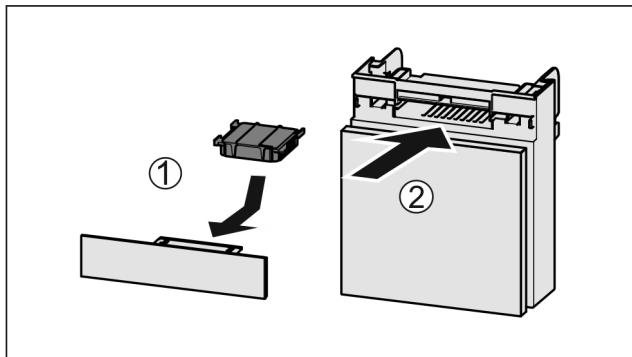

Fig. 104
- ▶ Insert the carbon filter as shown in the diagram Fig. 104 (1).
- ▶ Push the compartment in Fig. 104 (2).